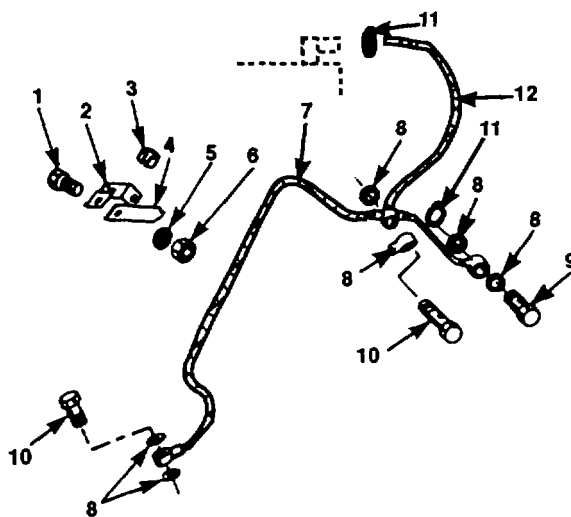

Figure 3-29. Overflow Pipe
- 1 Loosen hose clamps (11) and remove hose (12, figure 3-29).